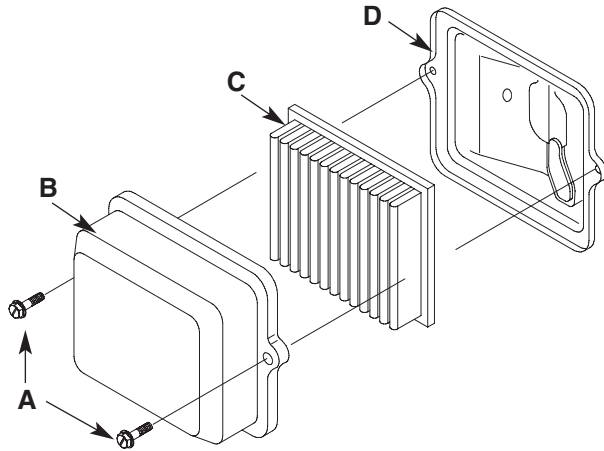

Figure 12 — Service Air Cleaner
1. Loosen screws (A) and remove air cleaner cover (B) (Figure 12).